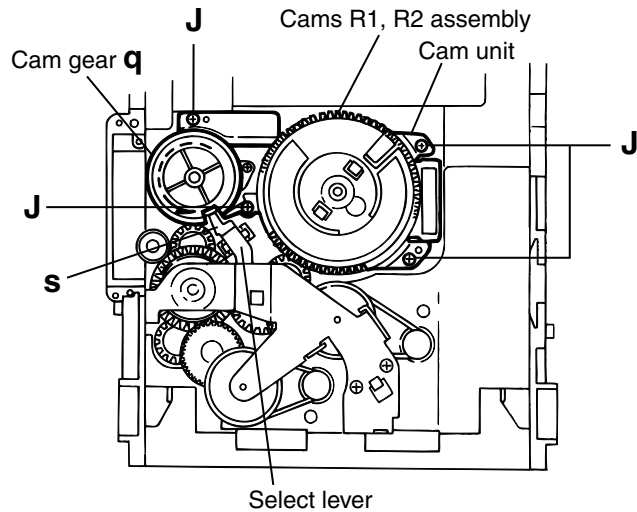

Fig.17
4. While turning the cam gear "q", align the pawl "s" position of the select lever to the notch position(Fig.17) on the cam gear "q".
5. Remove the four screws **J** retaining the cam unit(cam gear "q" and cams R1/R2 assembly)(See Fig.17).